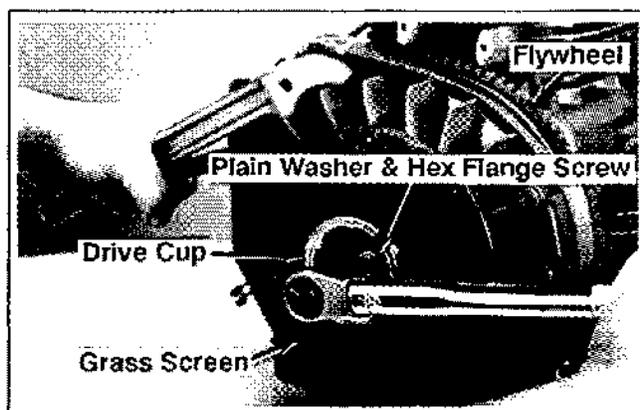

Figure 11-23. Installing Flywheel.
3. Place the flywheel over the keyway/crankshaft. Install grass screen, drive cup, plain washer (flat side of plain washer towards the drive cup), and the hex flange screw. See Figure 11-23.